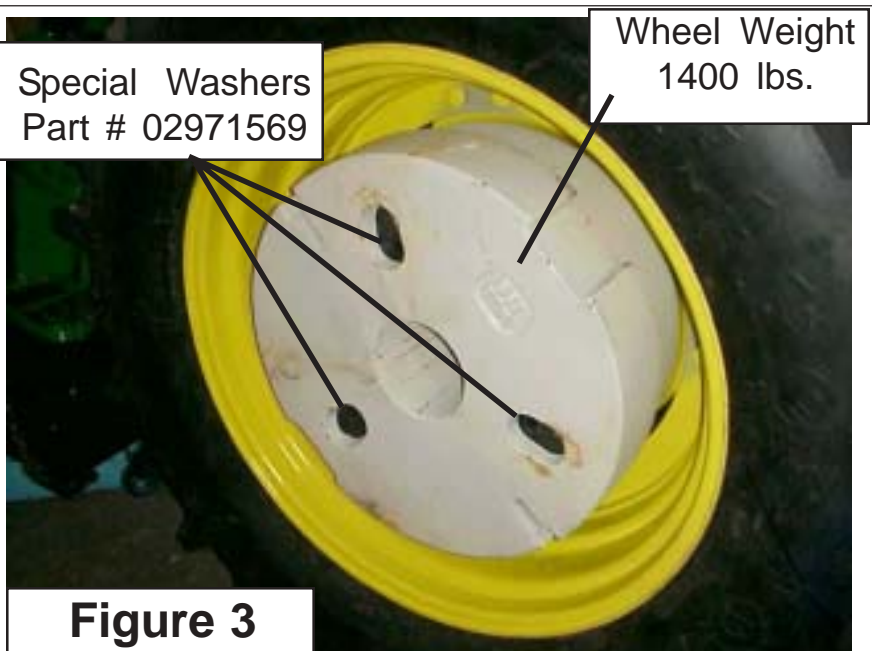

Figure 3
5. Looking at the outside make sure the three special Washers (**Figure 1 Item 2**) are aligned with the Slots in the Wheel Weight. Tighten the three Bolts now. You will need an assistant to hold the other Side while you are tightening the Bolts. While tightening Bolts, check to make sure the three special washers are seated correctly. If these Bolts are tightened and washer are not seated into the recess on Wheel Weight, damage will occur. **(See Figure 3)**
1. Install Pulley Adapter. The Pulley adapter (P/N 02980699) is a round plate with 4 threaded holes and four non-threaded holes in it. Notice this pulley adapter will not have a center hole in it (**See Figure 3**). The four non-threaded holes are used to mount the Adapter to the Crankshaft Pulley using bolts (P/N 02980967) 12 mm X 60 mm long and lockwashers (P/N 00754566) 12 mm that are supplied in mount kit. The four threaded holes are used to install the flange yoke of driveline to pulley adapter. Do not use longer bolts to mount Pulley Adapter to Pulley or Flange yoke to adapter than are supplied with mounting kit, if longer bolts are used they could go through adapter and pulley causing damage. Tighten the four bolts that retain the pulley adapter to the pulley now, it will be easier than trying to tighten them later.